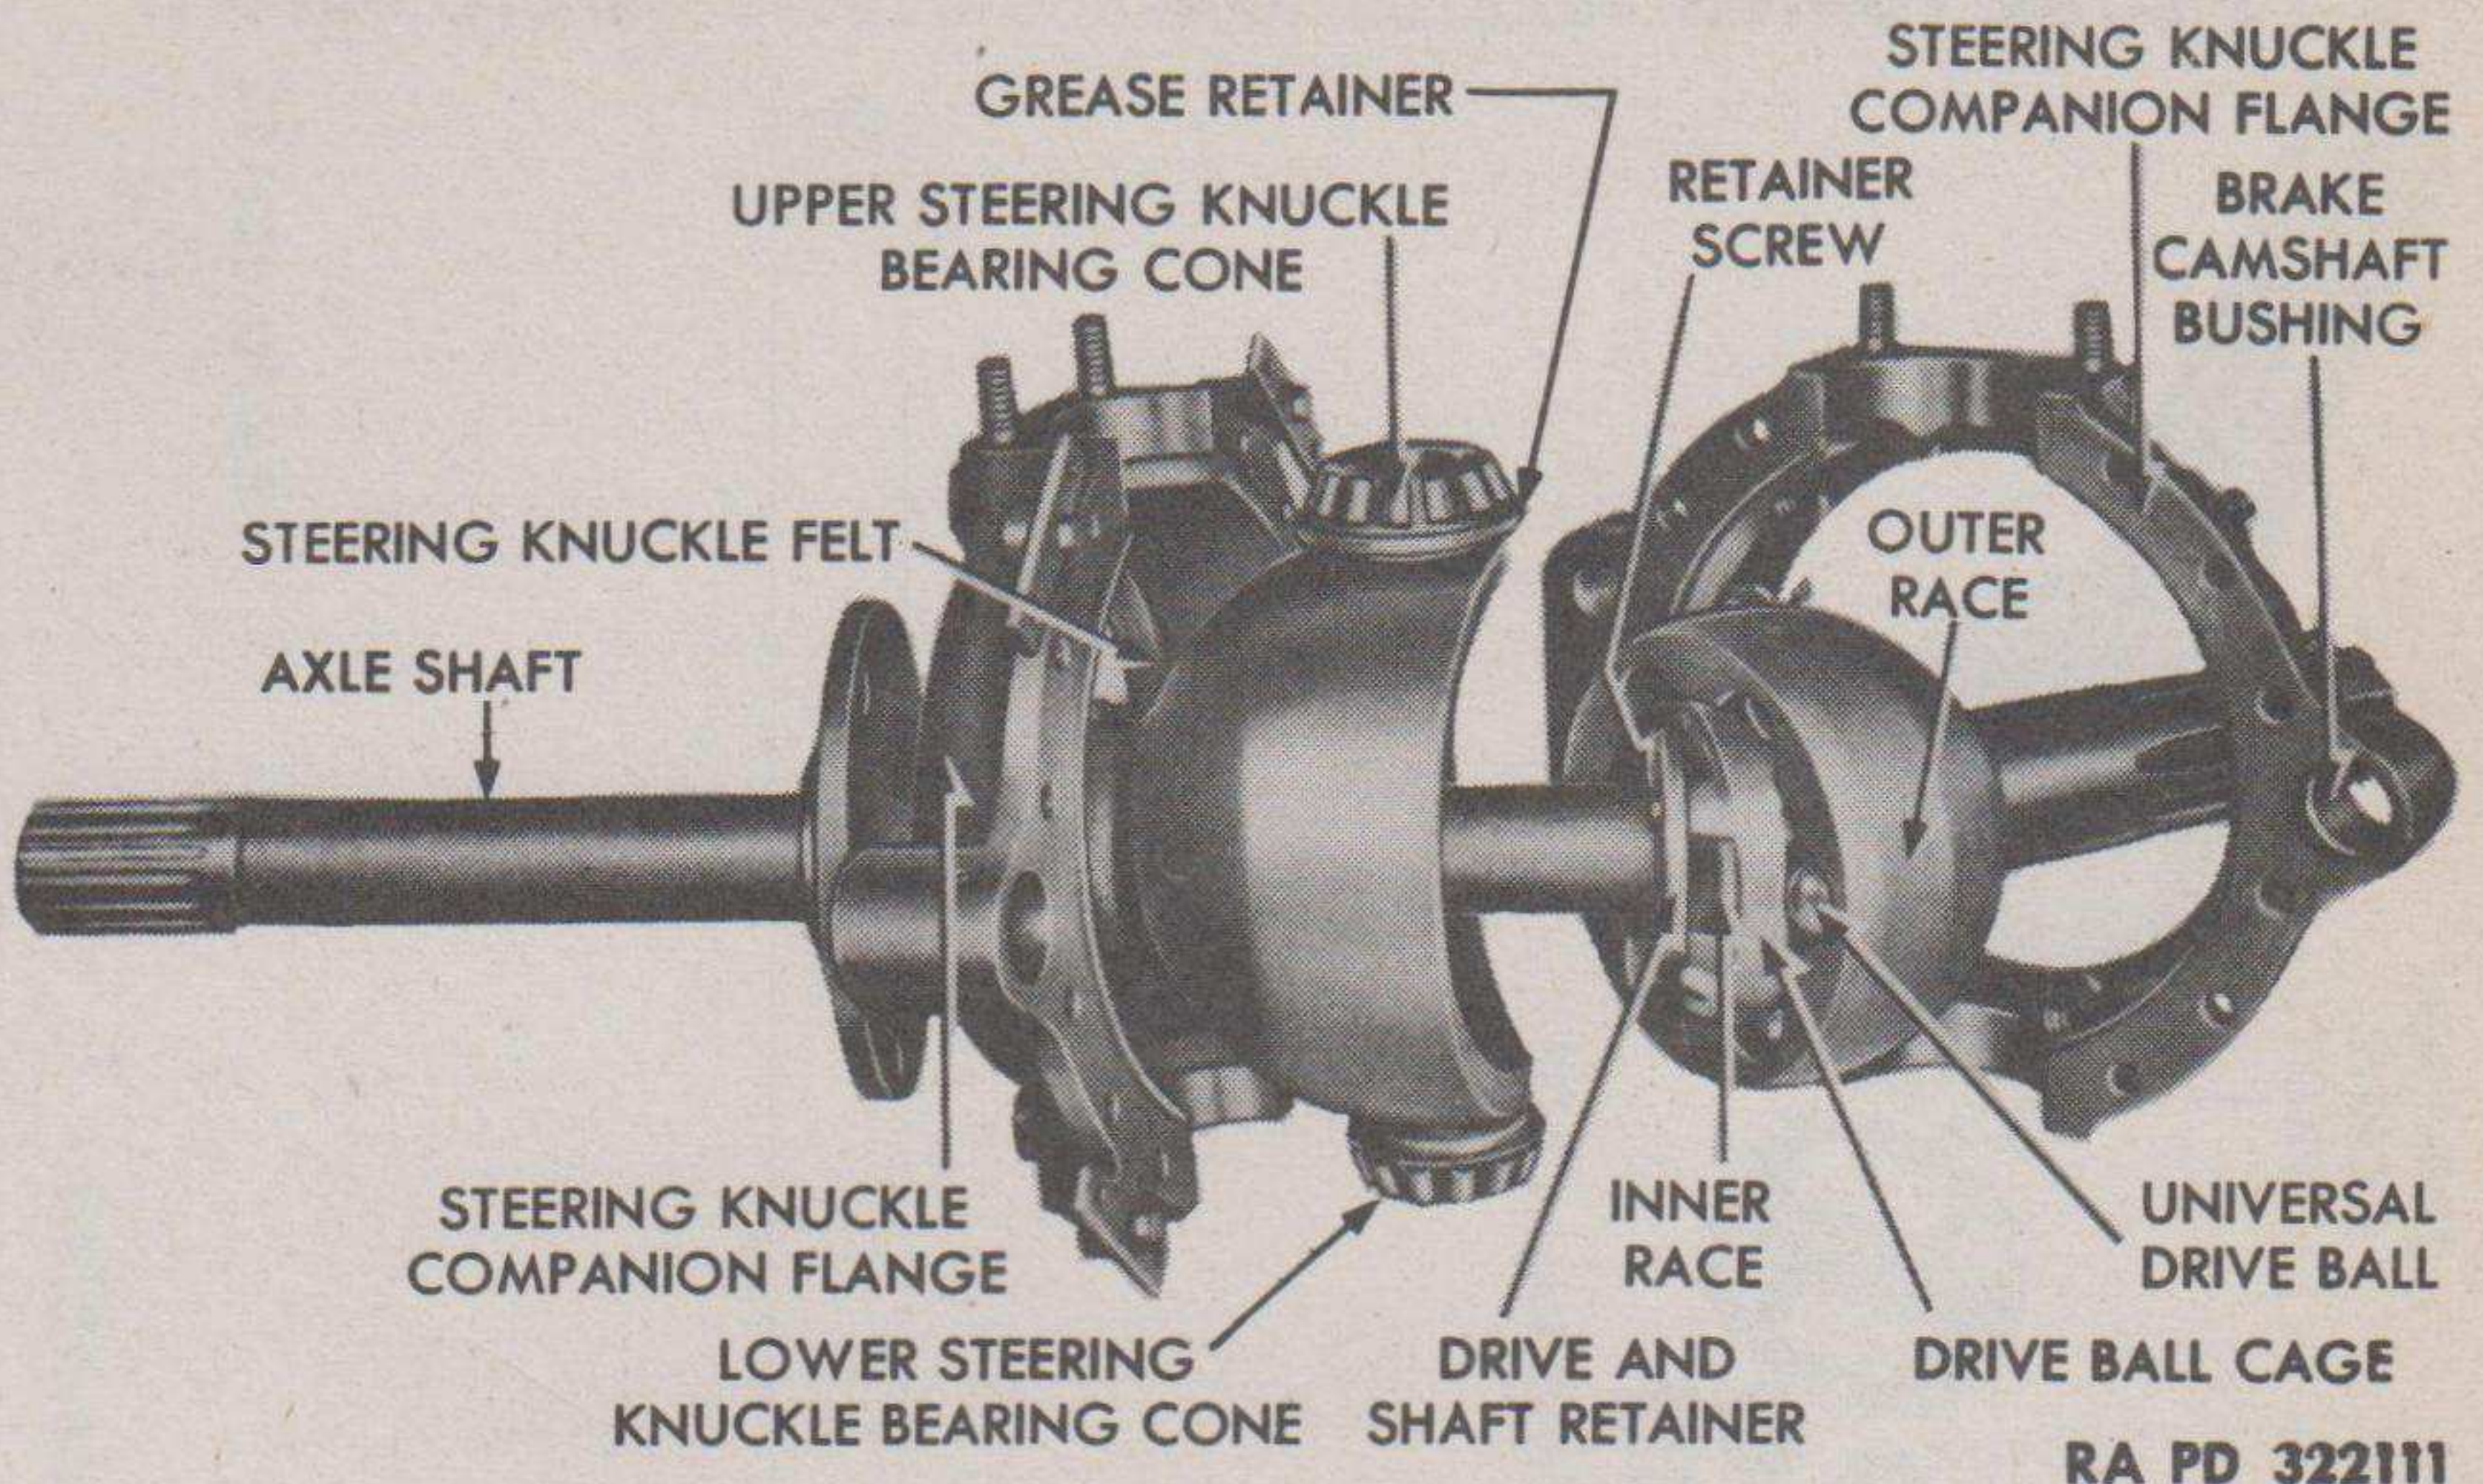

Figure 39 – Trunnion Socket Partly Disassembled
(7) REMOVE STEERING KNUCKLE BEARINGS (figs. 39 and 40). Using a bearing puller, remove lower bearing cone and upper bearing cone with its grease retainer from seats on trunnion socket. Remove driving axle oil seal only if damaged or worn (subpar. h, below).
(8) REMOVE AXLE SHAFT (figs. 39 and 40). Remove lock wire which is threaded through heads of universal drive and shaft retainer screws. Remove retainer screws and retainer. Pull axle shaft out of universal drive inner race. Lift universal drive pilot pin out of pilot pin seat in end of axle shaft.
(9) **REMOVE UNIVERSAL DRIVE BALLS** (figs. 39 and 40). Lift inner race spacer off edge of inner race. Revolve drive ball cage and inner race within seat in universal drive outer race into positions which will permit removal of the six drive balls.
(10) **REMOVE INNER RACE AND DRIVE BALL CAGE** (figs. 39 and 40). Revolve inner race and drive ball cage until universal drive pilot is accessible. Lift out drive pilot; then lift out inner race and drive ball cage.
(2) **INSTALL DRIVE BALL CAGE** (figs. 39 and 40). Place cage into outer race with elongated slots in cage over opposite ribs in outer race.
(3) **INSTALL INNER RACE** (figs. 39 and 40). Rotate cage to a vertical position and insert inner race. To do so, line up any two opposite ribs of the inner race with the two elongated slots in the cage and rotate inner race into position. **CAUTION:** *Exercise extreme care in this assembly. Do not force or jam parts together. They will slip together easily when properly installed.*
(6) **INSTALL UNIVERSAL DRIVE BALLS** (figs. 39 and 40). Tilt inner race and drive ball cage to bring one of the ball sockets of the cage in line with a raceway in joint of outer race and upward sufficiently to allow one drive ball to be dropped into place. Tilt inner race and cage to other five positions and install remaining drive balls.
(8) **INSTALL AXLE SHAFT** (figs. 39 and 40). Place inner race spacer on top of inner race. Insert axle shaft into splines of inner race. Slide universal drive and shaft retainer over axle shaft into position on inner race. Install retainer screws and lock wire.
(10) **INSTALL STEERING KNUCKLE COMPANION FLANGES** (fig. 39). Slide steering knuckle assembly over axle shaft and onto universal joint assembly. Install felt and felt retainer into recess in right half companion flange; then position flange over trunnion socket assembly. Position left half companion flange to meet right half around upper and lower knuckle bearing cones. Hold assembly together by installing four bolts, lock washers, and nuts.
(11) **LUBRICATE KNUCKLE BEARINGS** (fig. 39). Pack upper and lower knuckle bearing cones with general purpose grease.